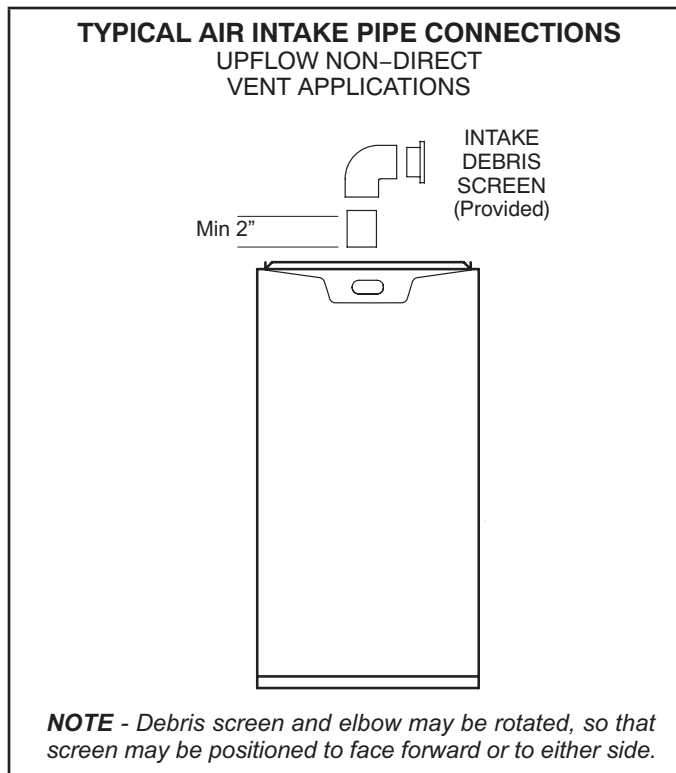
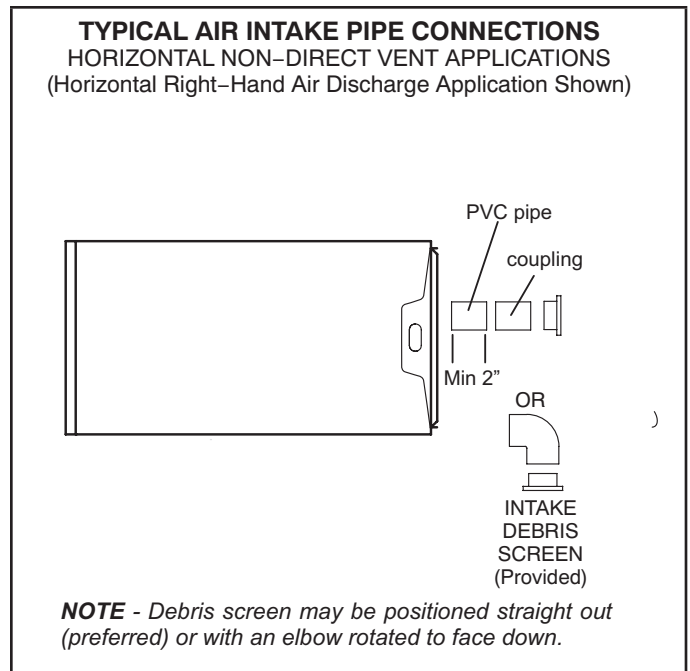

FIGURE 24
FIGURE 25
- 1 - Use field-provided materials and the factory-provided air intake screen to route the intake piping as shown in FIGURE 24 or FIGURE 25. Maintain a minimum clearance of 3" (76mm) around the air intake opening. The air intake opening (with the protective screen) should always be directed forward or to either side in the upflow position, and either straight out or downward in the horizontal position. **The air intake piping must not terminate too close to the flooring or a platform. Ensure that the intake air inlet will not be obstructed by loose insulation or other items that may clog the debris screen.**